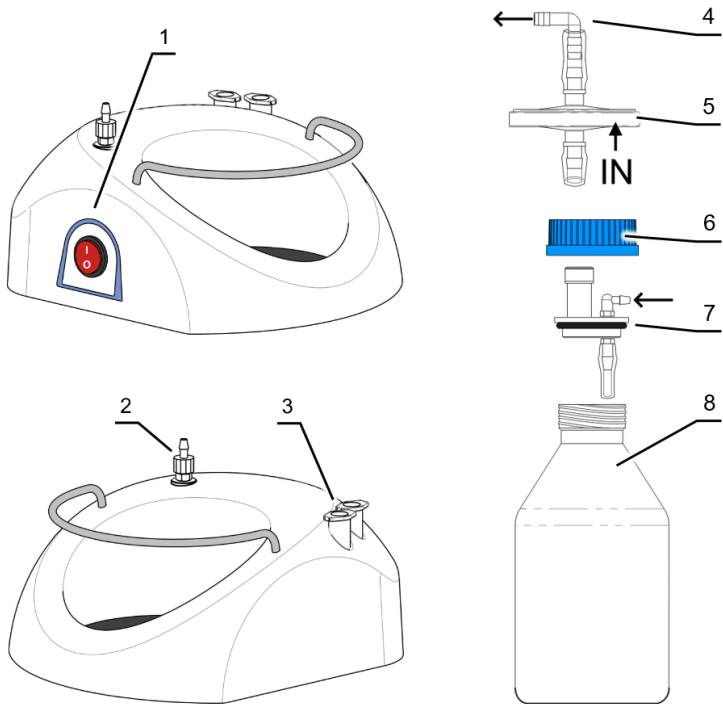

Figure 1. FTA-1, base and bottle.
|  | Microtube placements on FTA-1 , see fig. 1/3                                                                               |
- Install the trapping flask (fig. 1/8) on the unit.
- Check that the insert (fig. 1/7) is in the lid (fig.1/6). Secure the lid onto the trapping flask. Insert the hydrophobic filter set (fig. 1/5) into the lid.
- Check the tube connections: filter to bottle (fig. 1/2 and 1/4), bottle to aspiration tip (fig. 1/7 and fig. 2).
- Place the microtubes for aspiration tip into the holder (fig. 1/3).
4.3.1 **Optional MA-8 aspiration tip installation.** Remove microtubes and aspiration tip from the holders on the base (fig. 1/3). Place MA-8 storing holder into the unit base. Replace the aspiration tip with the **MA-8** aspiration tip. Store the aspiration tip in the new holder.
- 5.2 Turn the **Power** switch (fig. 1/1 or 7/2) to the position **I** (on). The pump starts working.